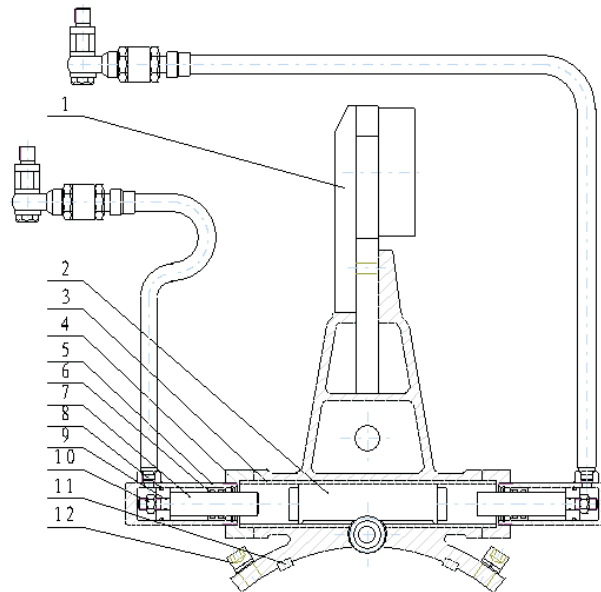

Fig. 8 Oil Cylinder of Backup Tong
It consists of bucket body, cylinder, spring, piston rod, piston, throttle valve, joints, ect. (see Fig 8) Its main function is to guarantee the free movement of the hydraulic power tong and adjust its suspension height in making-up and breaking-out operation.(see the adjusting methods in 5.2) The stroke of the piston rod is 20 inches (508mm.).
2.3.5 Oil Cylinder Of Backup Tong (Fig.8)